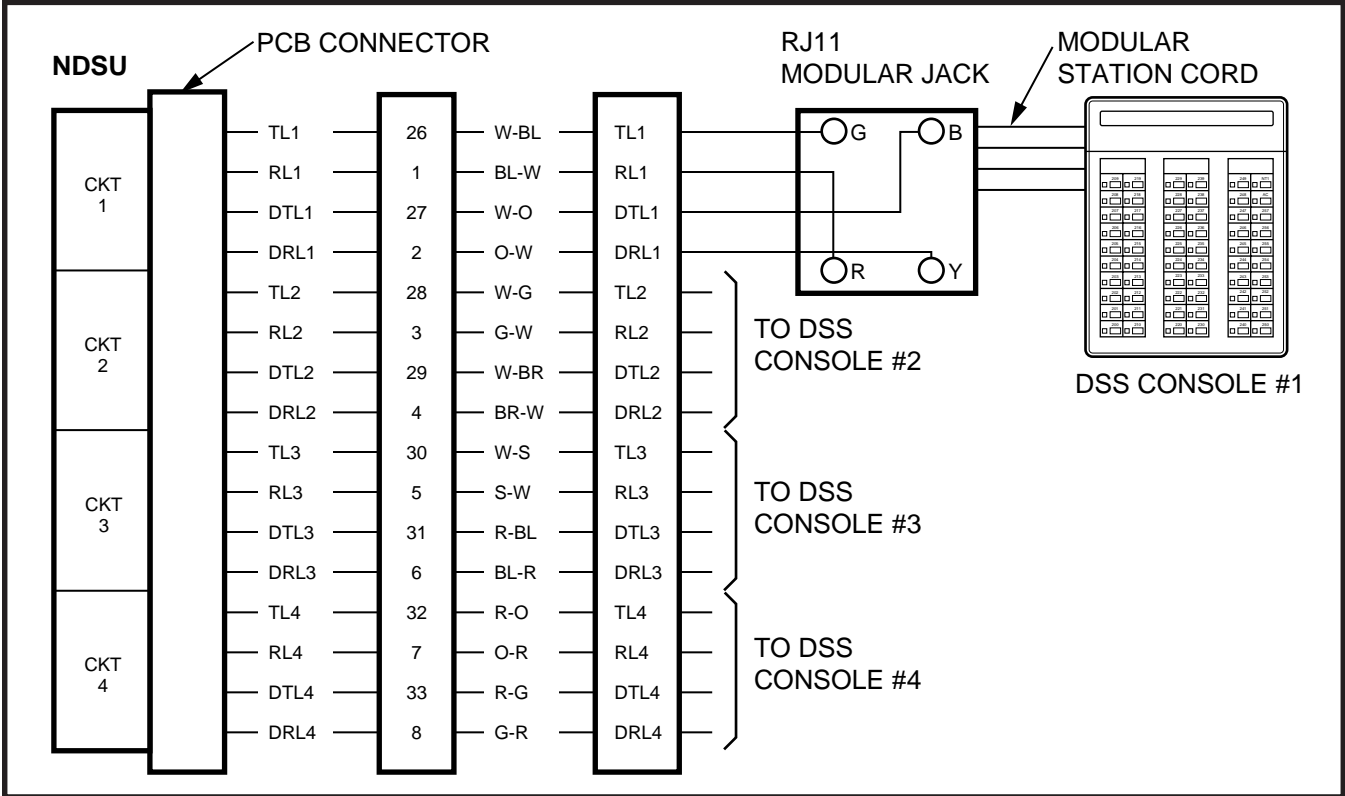

FIGURE 4-35—DSS CONSOLE CONNECTION FOR PERCEPTIONe "C" SLOT
**5.64** DSS console(s) connection details are shown in Figures 4-35 and 4-36, PERCEPTIONe and ex, respectively.